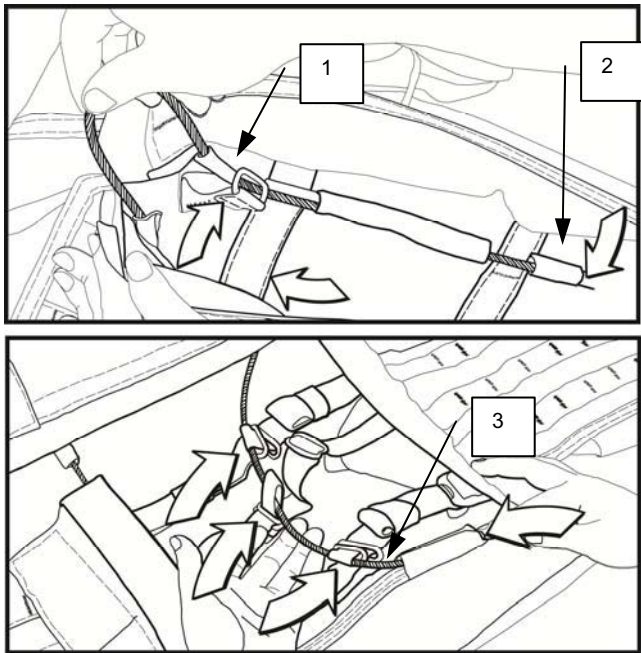

Figure 10. Back Cable Routing.
- c. Ensure the cable routes through both webbing loops (Figure 10, Items 1 and 2). Readjust if necessary.
- d. Ensure the cable extends at least 1 ½ inches past the left-most webbing loop (Figure 10, Item 1). NMC if cable is too short.
- h. Ensure the cable extends at least 1½ inches past the last webbing loop (Figure 10, Item 3). NMC if cable is too short.